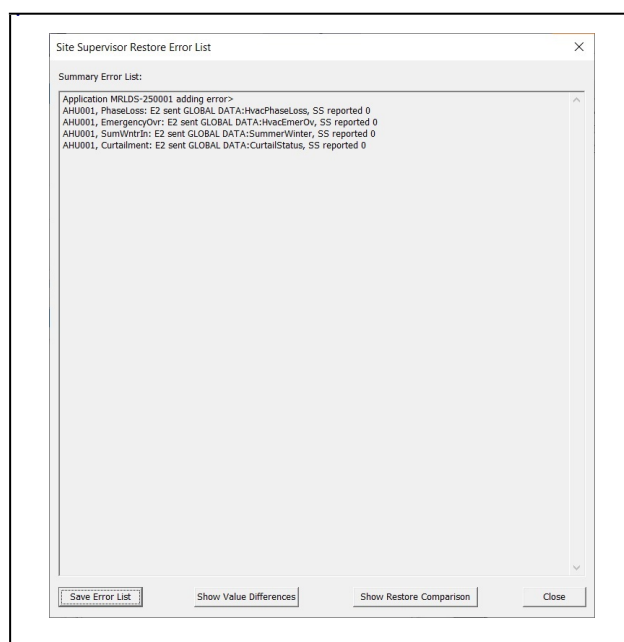

Figure G-13 - Site Supervisor Restore Error List
When retrofitting E2 with supervisory controllers, a backup/restore process should be performed on the E2 controller. The supervisory controller will run the same devices and applications as the E2, but instead of manually entering the information, the setpoints and configurations can be automatically converted from the E2 to the supervisory controller using UltraSite. The conversion tool can be expected to convert 80% or more of your E2 backup file. The conversion process will take between 10 to 20 minutes depending on the complexity of the backup file. You must do a side-by-side comparison of the E2 backup file and the newly converted Supervisor file to verify there are no errors. It will be necessary to review all setpoints and alarms for consistency in addition to the error log report and restore comparison log (see **Figure G-13**) that is generated at the end of the conversion process to ensure your new system will run properly. Licensed features and 3rd-party integrations will not convert if your new controller does not have the licenses or features installed. Note that some complex schedules and Flex Combiners may not be converted.
7. When completed, a **Site Supervisor Restore Error List** (Figure G-13) will display and contain a Summary Error List of any of the following: